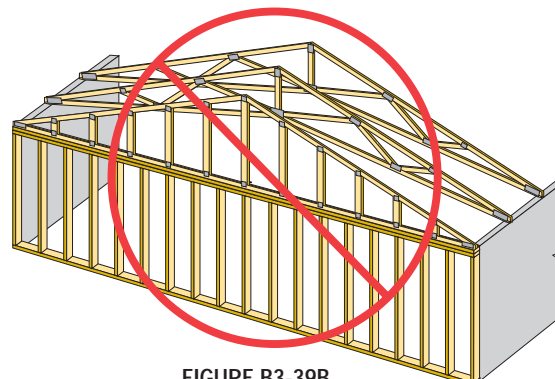

FIGURE B3-39B
**⚠ WARNING!** A FLAT BOTTOM CHORD GABLE END FRAME MUST NOT BE USED WITH ADJACENT TRUSSES THAT HAVE SLOPED BOTTOM CHORDS AS THIS CREATES A HINGE IN THE WALL/GABLE INTERFACE THAT IS BELOW THE BOTTOM CHORD PLANE DIAPHRAGM (SEE FIGURE B3-39B). ADEQUATE BRACING OF THIS CONDITION IS DIFFICULT AND SOMETIMES IMPOSSIBLE.